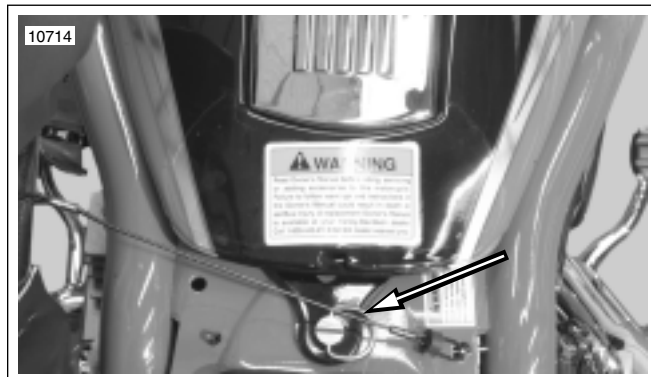

Figure 1-1. Airbox Cover
3. See Figure 1-1. Remove airbox cover by turning bailhead fastener 1/4 turn counterclockwise (CCW).